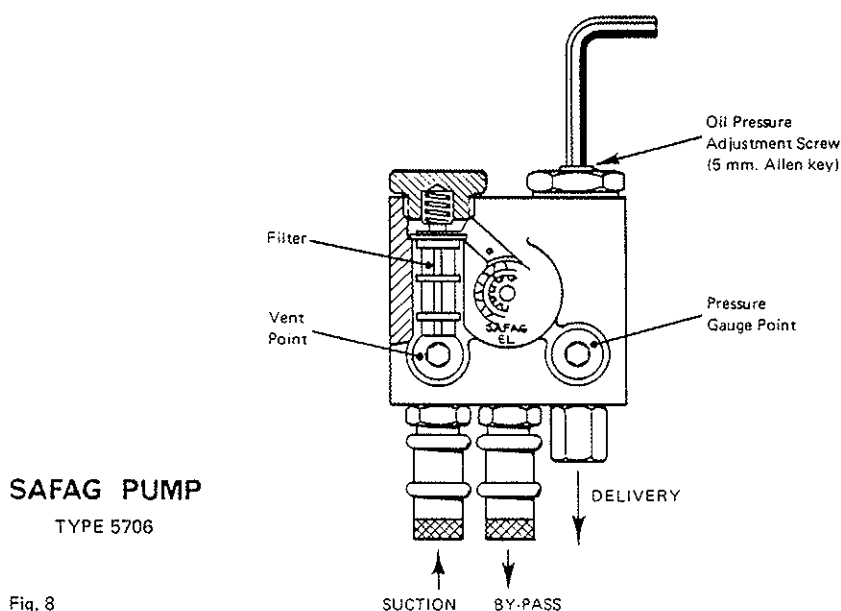

Fig. 8
3. Turn on oil supply and bleed all air from the system. Air can be bled from oil pump by loosening plug above oil suction flexible until air is expelled. Re-tighten plug, see Fig. 8.
4. Fit oil pressure gauge with range of 2070 kPa (0–300 lbf/in.2) to pump above port B. (See Fig. 8).
9. Adjust oil pressure on burner pump by means of adjusting screw. (See Fig. 8 and General Data).